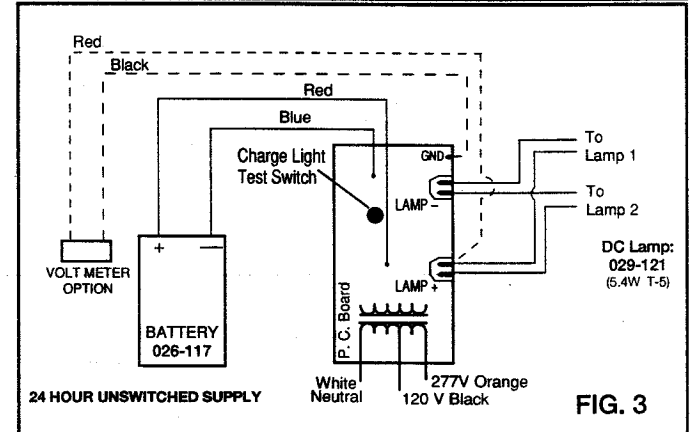

FIG. 3
Step 7. Extend switched 24 hour supply to fixture and connect (120V-Black, 277V-Orange, Neutral-White.) (Fig.3) Cap unused supply lead.